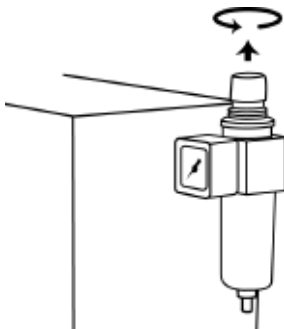

Figure 2
1. Before attaching the air supply to the plasma cutter, pull out the air pressure regulator knob and turn it fully counter-clockwise. This will set the regulator to its lowest pressure. (see Figure 2)